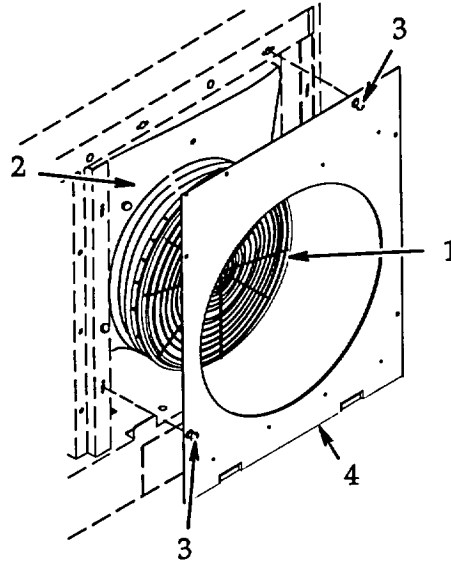

Figure 4-24. Supply Panel.
a. **Removal.** See figure 4-24.
- (1) Shutdown the FDECU per paragraph 2.4.
- (2) If duct is attached, remove per paragraph 4.57. Push heater barrel (1) into volute assembly (2).
- (3) Turn to release six captive hardware fasteners (3) and remove supply panel (4).
b. **Installation.** See figure 4-24.
- (1) Install supply panel (4) and engage six captive hardware fasteners (3) to secure.
- (2) Pull heater barrel (1) out of volute assembly (2) to stops (approximately 4 inches). Install duct if necessary per paragraph 4.4.6.
- (3) Connect FDECU to power source and operate per paragraph 2.4.